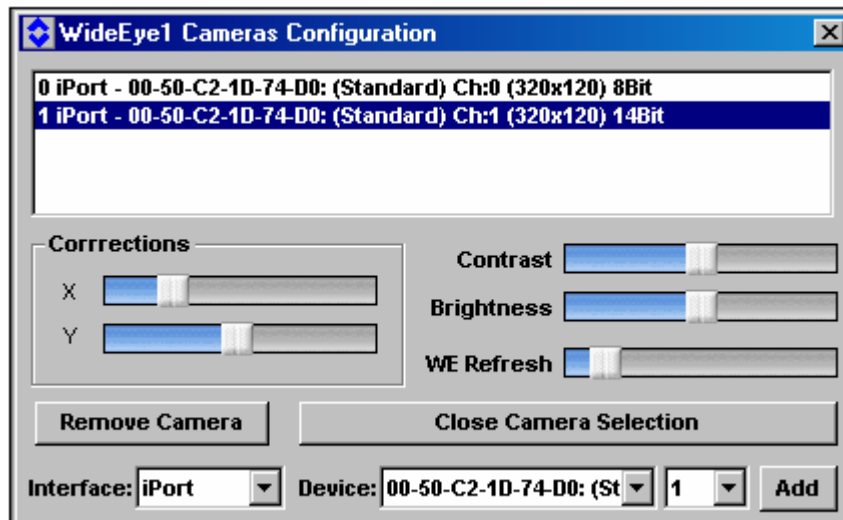

Figure 13 – Open/Close Camera Selection
4. Select the Device Mac address for WideEye 1, select channel 0, click **Add**. For the same Device. Select channel 1 this time and click **Add**. See Figure 13 – Open/Close Camera Selection.